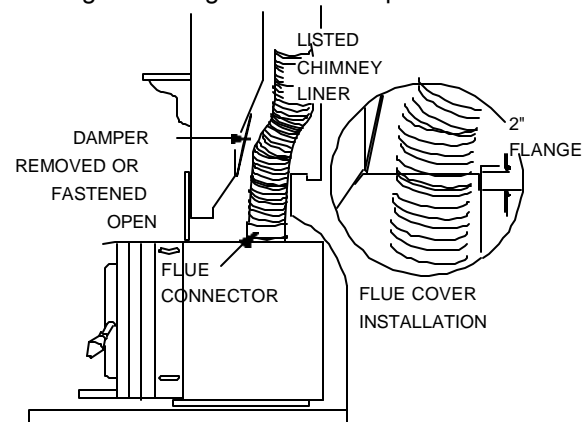

FIGURE 11 MODEL 1401 Illustrated
2. Measure the throat of the fireplace and mark this shape on a piece of 24 gauge sheet metal (flue cover); cut a six-inch (150mm) hole to lie directly below the fireplace flue opening. Allow two inches of material for a flange on all sides and cut to these measurements. Bend down the flanges. If you have never done this before, it might be a good idea to make a cardboard pattern and test it first. Fasten this flue cover in position as high as possible with two masonry screws per side through the flanges into the fireplace. **FIGURE 11**.